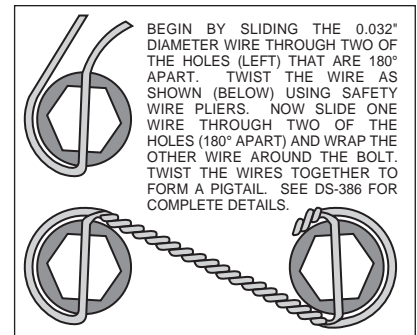

Figure 4. Safety Wire Diagram
- Install the grease seal (9) by pressing into the backside of the hub (7).
- Attach rotor adapter (10) to rotor (11) using six bolts (12). Torque bolts (12 to 180 in-lb. Safety wire bolts (12) using standard 0.032 inch diameter stainless steel safety wire as shown in Figure 4. Please refer to Wilwood's data sheet DS-386 (available at [www.wilwood.com/Pdf/DataSheets/ds386.pdf](http://www.wilwood.com/Pdf/DataSheets/ds386.pdf)) for complete safety wire installation instructions.
**NOTE:** The flat side of the rotor (11) lugs face toward the rotor adapter (10) with the dished side of the rotor adapter (10) facing away from the rotor (11).